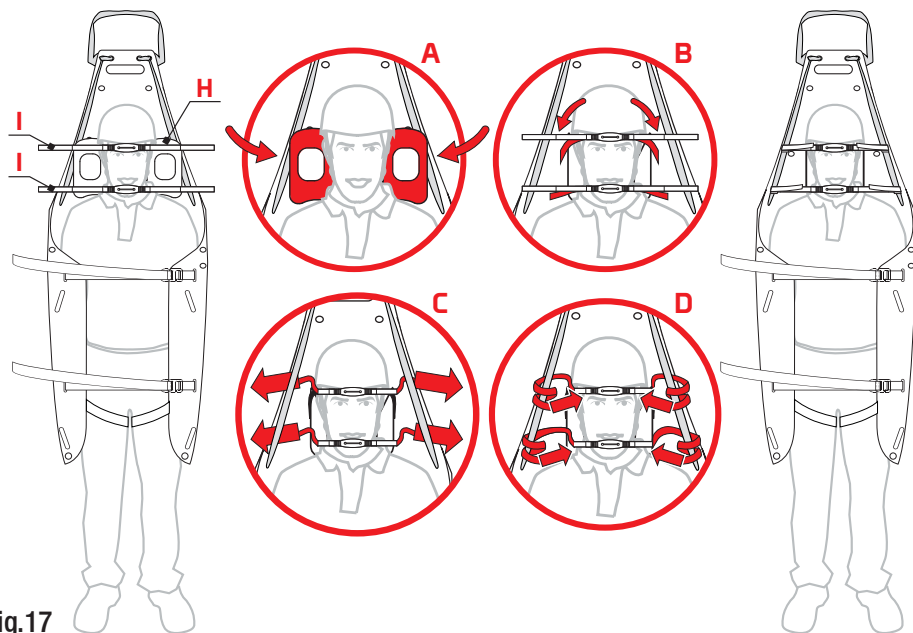

Fig.17
- Fasten the chin strap (I) to the head immobilizer HRP (H), using the velcro (fig. 17),
- Wind the chin strap velcro (I) around the rope (M) or the sling (E) and make it adhere to itself (fig. 17).